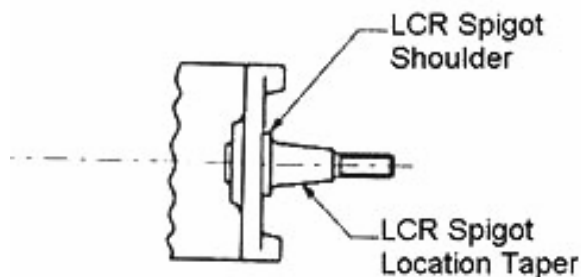

Figure 4: View of Typical Frame End Spigot
- C2.2 Check that Datum line J is within +0.5mm of the centre line of the LCR spigots. The LCR spigot location tapers shall be used to define their centre lines (see Figure 4).